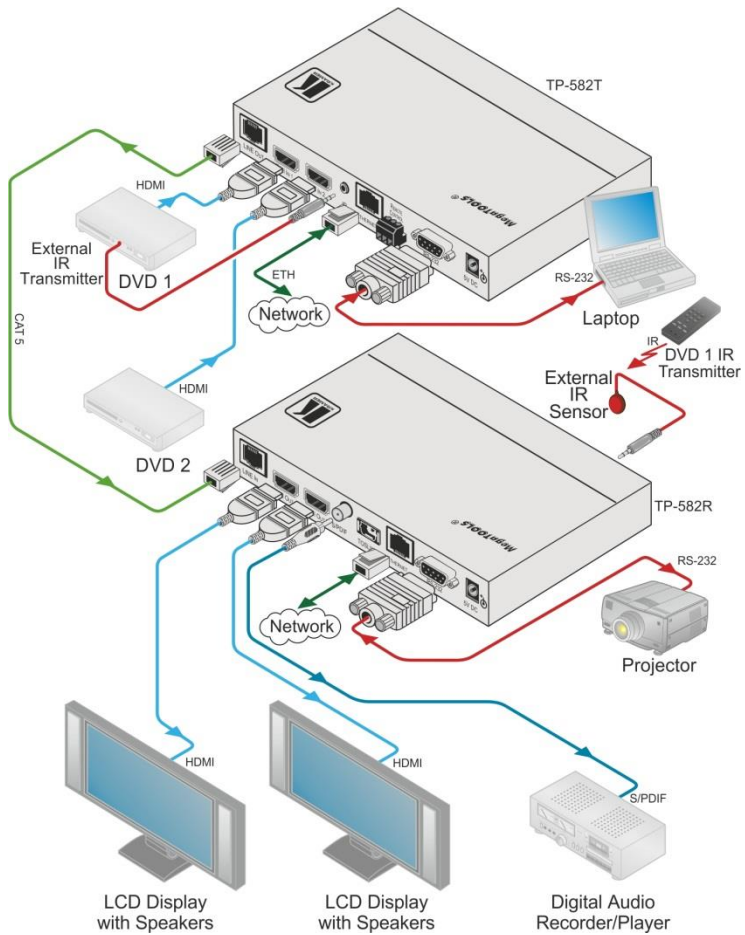

Figure 4: Connecting the TP-582T and TP-582R
To connect the **TP-582T** or **TP-581T** as shown in the example in Figure 4, do the following:
6. Connect the REMOTE CONTROL terminal block to an external set of switches (not shown in Figure 4).
8. Connect the 5V DC power adapter to the power socket and connect the adapter to the mains electricity (not shown in Figure 4).
To connect the **TP-582R** as shown in the example in Figure 4, do the following:
7. Connect TOSLINK® connector to an optical audio acceptor (for example, a digital audio recorder) (not shown in Figure 4).
10. Connect the 5V DC power adapter to the power socket and connect the adapter to the mains electricity (not shown in Figure 4).